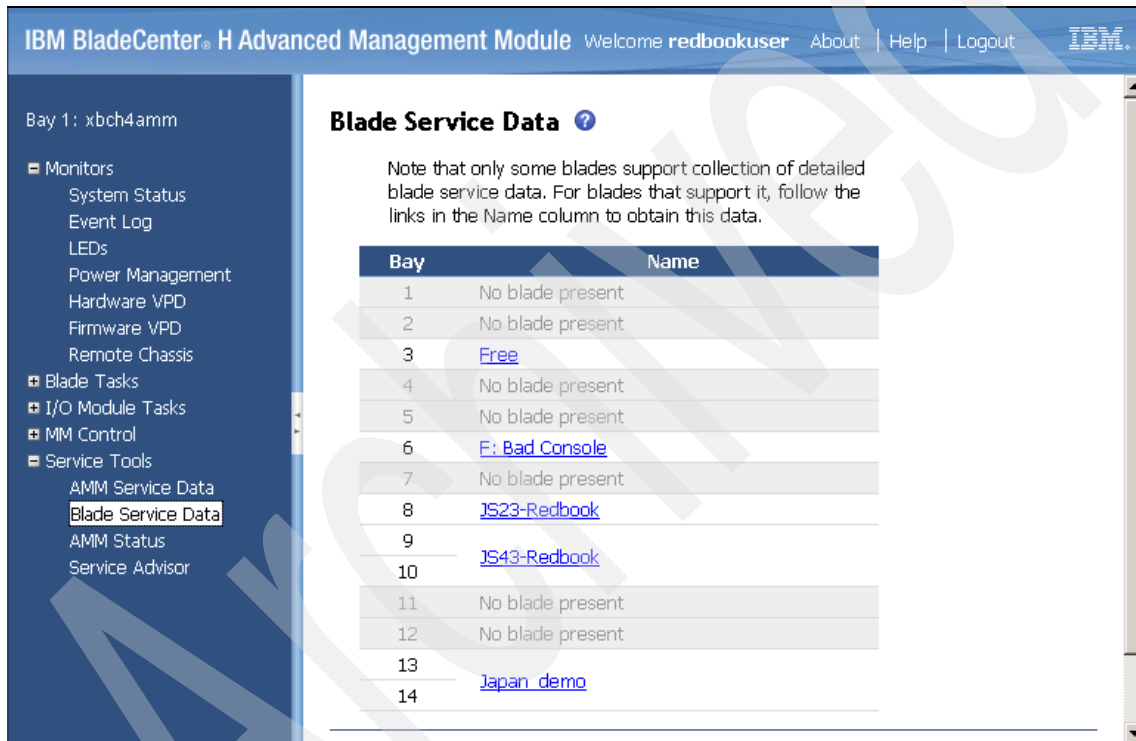

Figure 12-14 AMM Blade Server Data panel
2. In the menu on the left, select **Service Tools** → **Blade Service Data**, as shown in Figure 12-14.